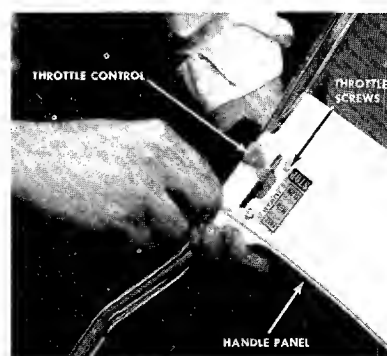

FIGURE 5.
7. Place the throttle control in the handle panel and assemble it with the two throttle screws using a screwdriver. See figure 5.